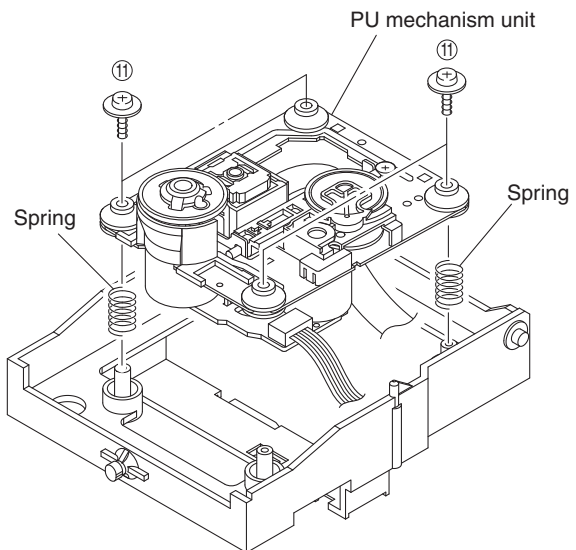

Fig. 11
- b. Remove 4 screws (11) and then remove the PU mechanism unit. (Fig. 11)